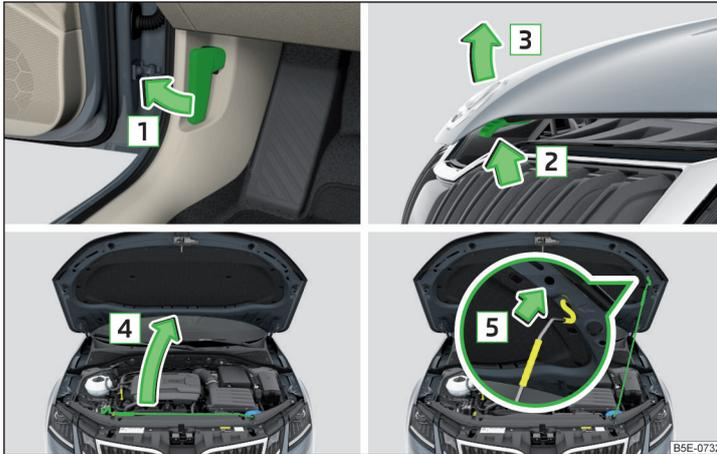

Fig. 307 Opening the bonnet
- › Open the front door and pull the release lever below the dash panel in the direction of arrow **1** » Fig. 307.